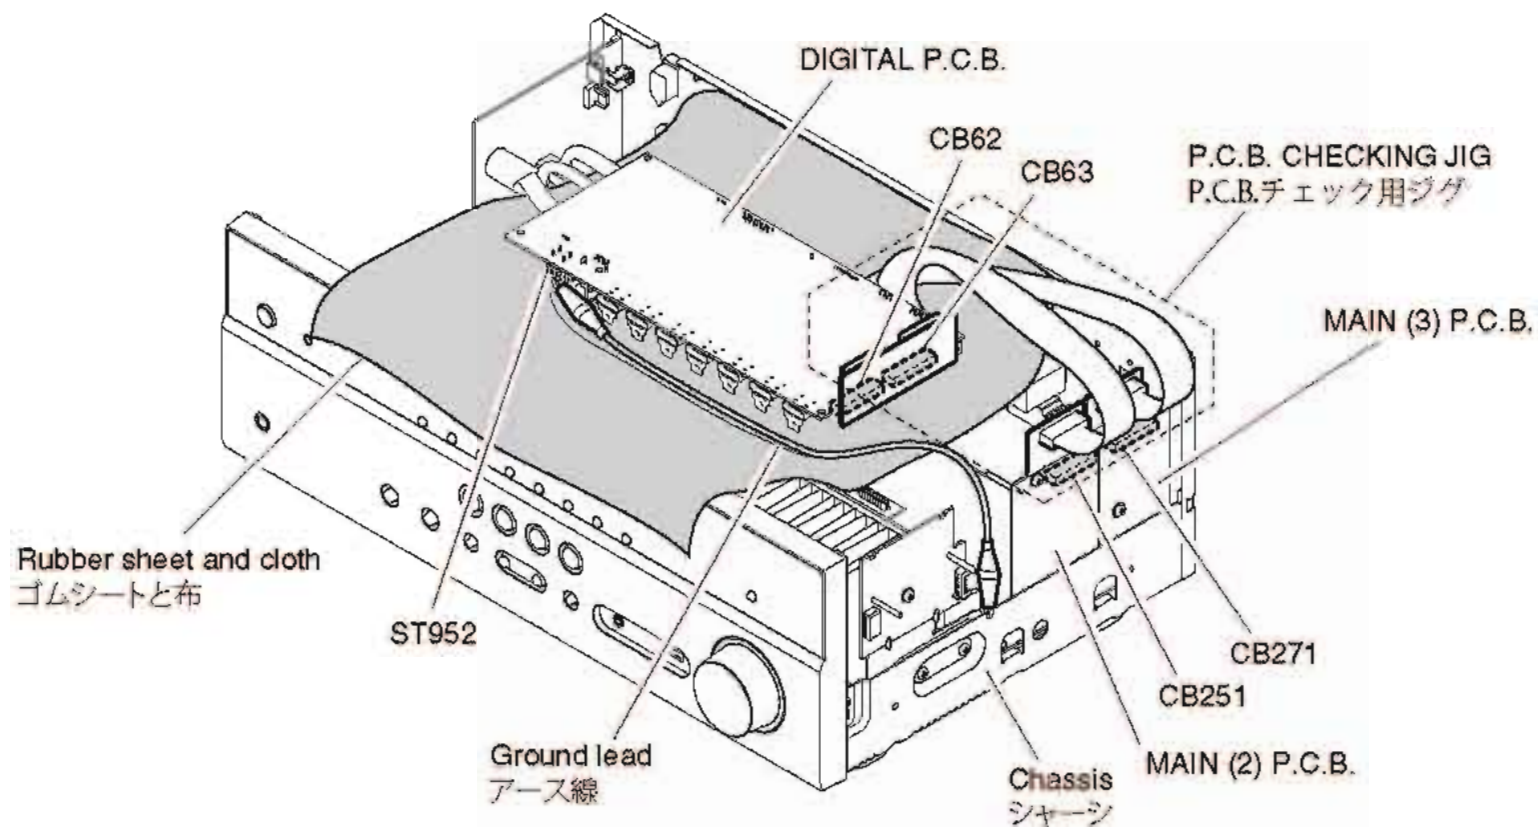

Fig. 5
- Put the rubber sheet and cloth over this unit, and place the DIGITAL P.C.B. on them. (Fig. 5)
- Connect ST952 on DIGITAL P.C.B. to the chassis with a ground lead. (Fig. 5)
- CB62 on DIGITAL P.C.B. – CB271 on MAIN (3) P.C.B.
- CB63 on DIGITAL P.C.B. – CB251 on MAIN (2) P.C.B.
- 本機の上にゴムシートと布を敷き、その上に DIGITAL P.C.B. を置きます。(Fig. 5)
- DIGITAL P.C.B. の ST952 のアースをリード線でシャーシに接続してください。(Fig. 5)
- DIGITAL P.C.B. の CB62 – MAIN (3) P.C.B. の CB271
- DIGITAL P.C.B. の CB63 – MAIN (2) P.C.B. の CB251